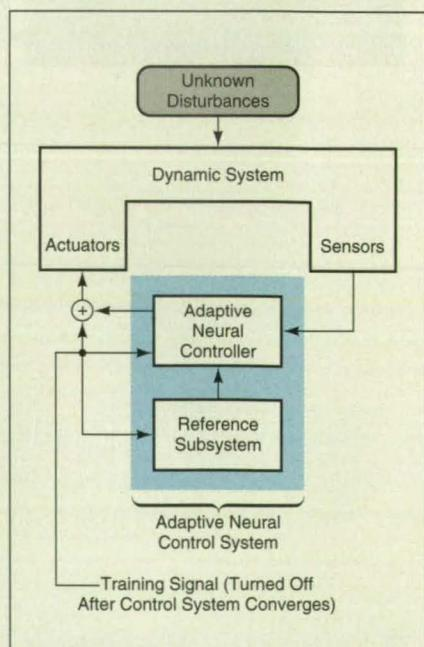

Figure 1. The **Adaptive Neural Control System** is trained to implement a model-reference adaptive control scheme.
The asynchronous digital latching circuit shown in Figure 1 is designed for use in a safety-related application like turning off power in response to an alarm signal. During normal operation in the absence of an alarm, the "set" (S) and "reset" input voltages are low or off, while the output voltage (Q) is high or on. The "set" input constitutes the alarm signal: whenever "S" goes high (on), Q goes low (off), and thereafter remains low, even when S goes low. Thus, for example, the circuit keeps a power supply turned off even when the alarm has been shut off (see Figure 2).
Figure 1. The Asynchronous Digital Latching Circuit is made of standard transistor/transistor logic (TTL) devices. U1 is a hex inverter, U2 is a quad dual-input AND gate, and U3 is a quad dual-input OR gate.
A control system of the type in question (see Figure 1) implements a model-reference adaptive control (MRAC) scheme. In MRAC, identical training stimuli are applied to both a dynamic system subject to unknown disturbances and to a reference subsystem, which is an idealized mathematical model of the dynamic system implemented in software. The sensor outputs (converted to time series of digitized samples) from the dynamic system are compared with corresponding sensor outputs from the reference subsystem. This comparison yields an error signal, which drives the adaptation of the con-
trol system based on the use of a digital computer with feedbacks of such parameters as flightpath angle, pitch rate, bank angle, and yaw rate (see Figure 1). The flightpath command from the pilot is compared with the measured flightpath, and, using the pitch rate for phugoid damping, collective throttle is commanded to achieve the desired flightpath. The time required to achieve a flightpath command is between 7 and 10 seconds. The bank-angle command from the pilot is compared with the measured bank angle, and, by use of the yaw rate to stabilize the Dutch roll, differential throttle is commanded to satisfy the bank-angle command. A small bank-angle command can be satisfied in about 5 seconds.